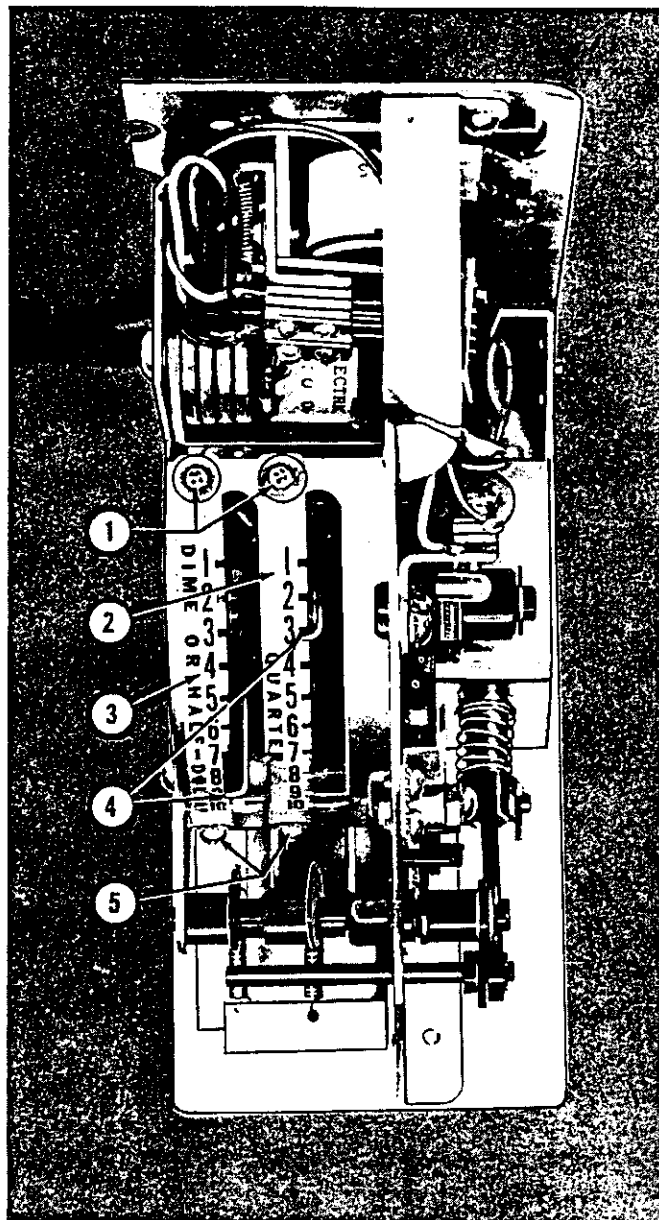
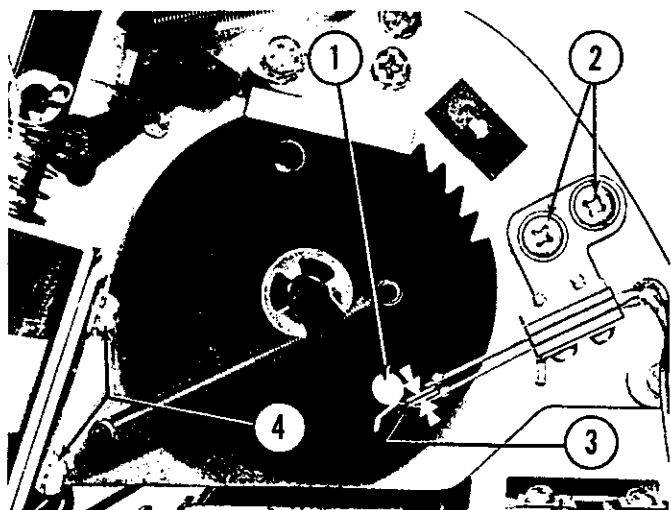
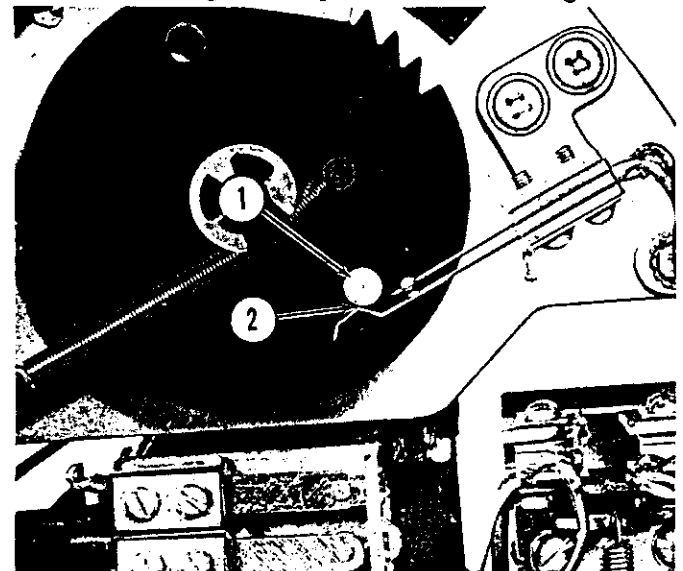

Fig. 12. STOP LEVER AND QUADRANT INDEXING STRIP ADJUSTMENT
Fig. 11. PLAYRAK
Fig. 16. KEY SWITCH CLEARANCE
(3) For this adjustment the cancel solenoid adjusting screws (Fig. 11) should be loosened and the cancel solenoid should be lowered to the limit of its adjustment. The indexing strips shown in Figure 12 should be set at the center of their adjustment range and the "stop levers" set for 5 plays. Release of the
(6) When all but one tooth of the accumulator wheels have been cancelled, or when only one credit has been set up, the actuator on the cancel wheel should have clearance at the key switch as shown in Figure 16. When all credits are cancelled the key switch should again be open as shown in Figure 11.